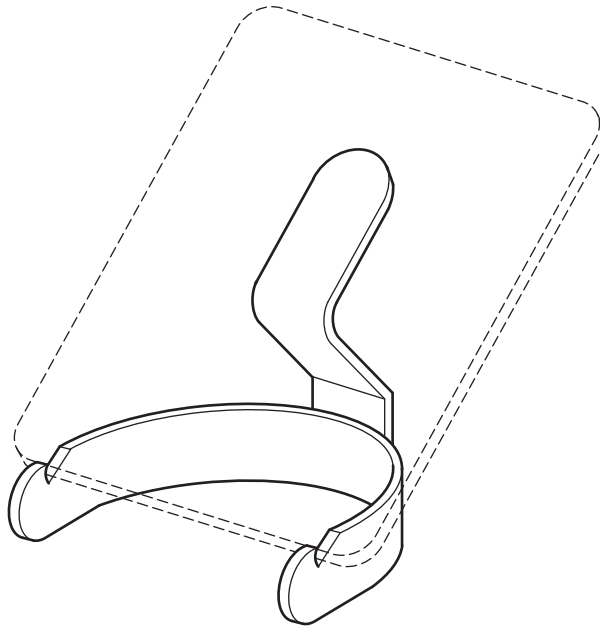

Fig. 7
Fig. 7 shows a stand for a tablet computer.
- (a) Give **four** justified design requirements for a stand for a tablet computer of the type shown in Fig. 7.
- (e) (i) State a **suitable specific material** for the stand for a tablet computer shown in Fig. 7.